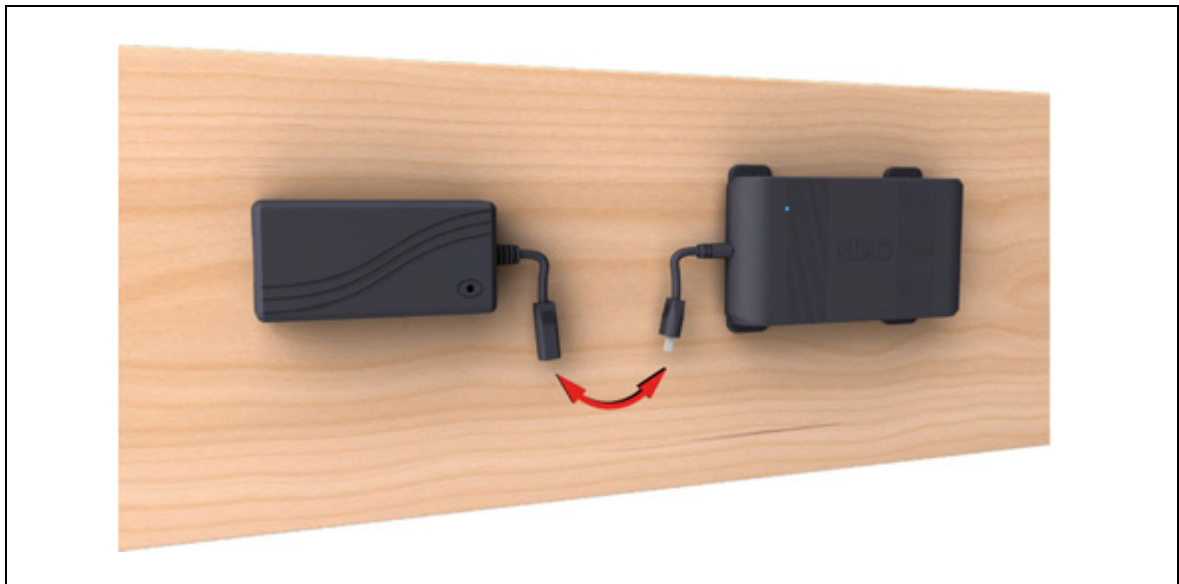

Figure 9 Example: Connecting the CU165 to the POWER SUPPLY PD22
- 1 Connect the CU165 to the external DewertOkin POWER SUPPLY PD22, as shown in Figure 9.